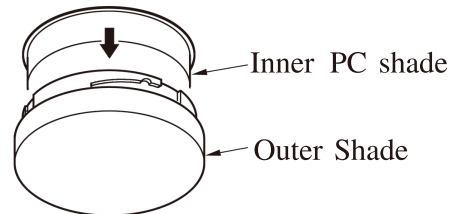

FIG.22
6. Place the inner white PC shade into the outer clear shade.(See fig.22)